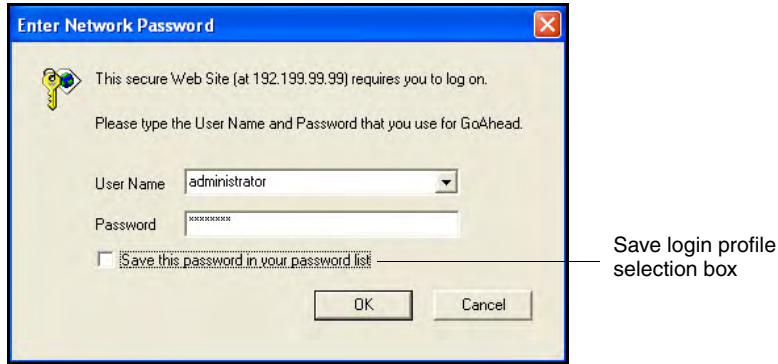

FIG. 12 Enter Network Password security dialog
If attempting to access the UI, the users are prompted to log into the MAX unit via the on-screen Enter Network Password security dialog (FIG. 12). After the user's information and rights are confirmed, the login process is completed and the user is then granted access to the UI pages.
2. Enter the IP Address of the target unit (*as seen on the unit's LCD display*) into the web browser's *Address* field (FIG. 12).
3. Press the **Enter** key on your keyboard to initiate communication with the MAX unit and launch the initial on-screen security dialog (FIG. 12).